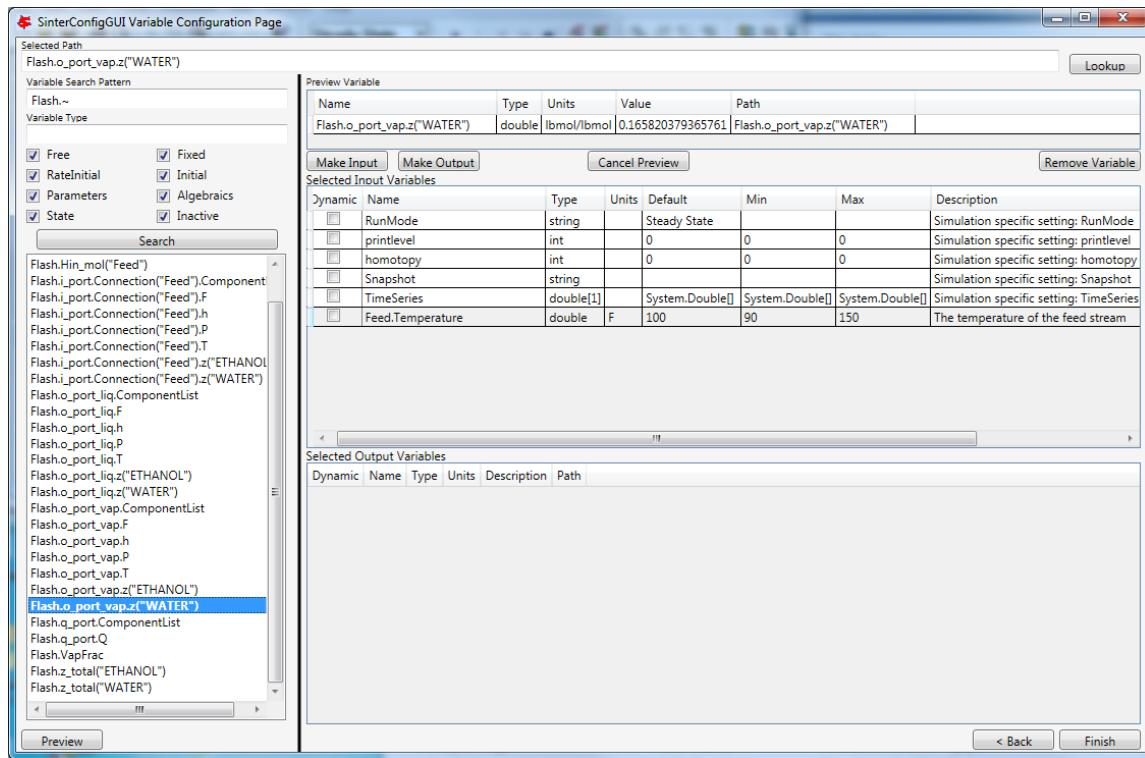

Figure 13: SinterConfigGUI Variable Configuration Page window, preview before making an output variable.
1. Open the “SinterConfigGUI” from the “Start” menu, as shown in Figure 13.